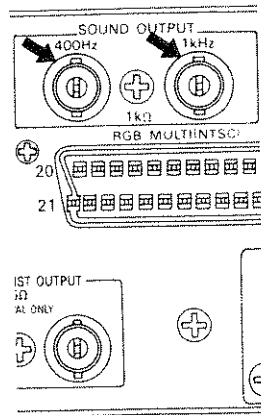

Figure 4.26
4.8 Sound Signal Output (See Figure 4.26)